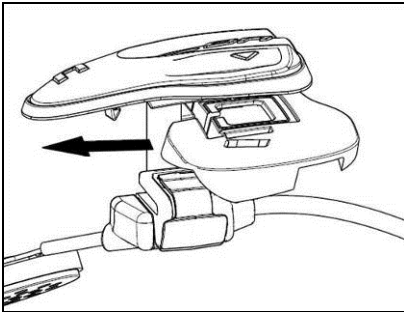

Fig. 10
- Lift up the plastic lining of the cheek padding (Fig. 10)